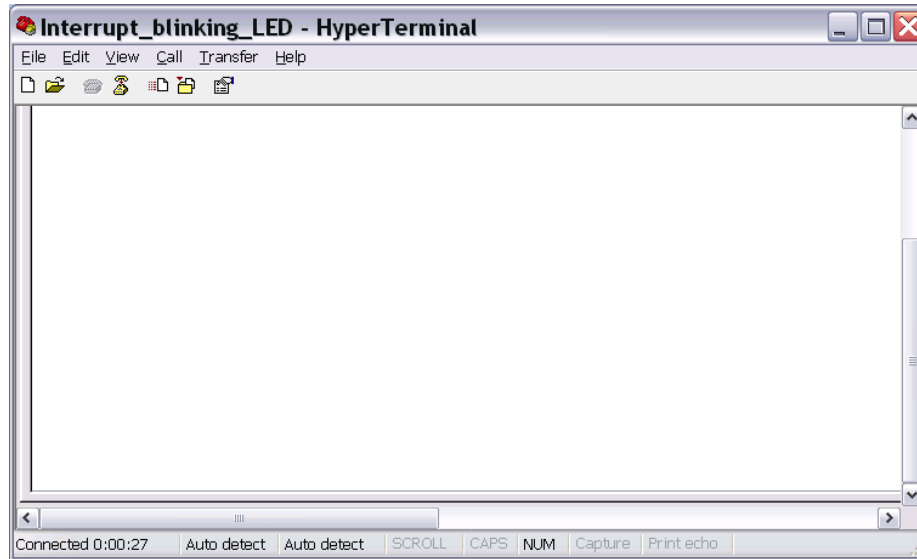

Figure 46 HyperTerminal
5. The HyperTerminal with name Interrupt_blinking_LED is displayed, as shown in Figure 46.